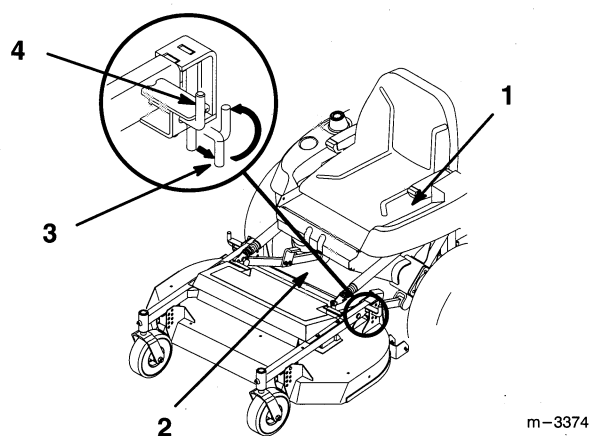
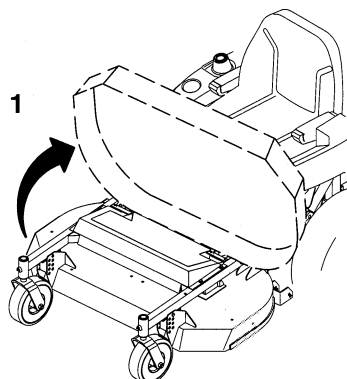

Figure 18
Figure 19
2. Lift on side of mower to release weight on latch pin and pull out on latch pin to release (Fig. 18). Lower rear of mower onto roller. Repeat on the other side.
3. Standing in front of the mower, lift up and push rearward on front to raise mower (Fig. 19). Raise mower until it contacts stops and latch pins snap into locked position.
1. Pull out latch pins and rotate into notch to hold in the open position (Fig. 18). Standing in front of the mower, pull forward on front and lower mower (Fig. 19).
2. Rotate latch pins into released position and lift on side of mower until latch pin engages (Fig. 18). Repeat on the other side.